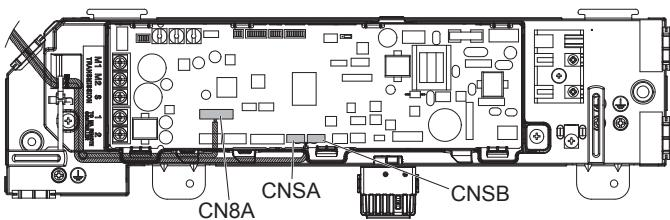

Fig. 5-6
- Connect to the optional lead wire circuit board connector. (Fig. 5-6)